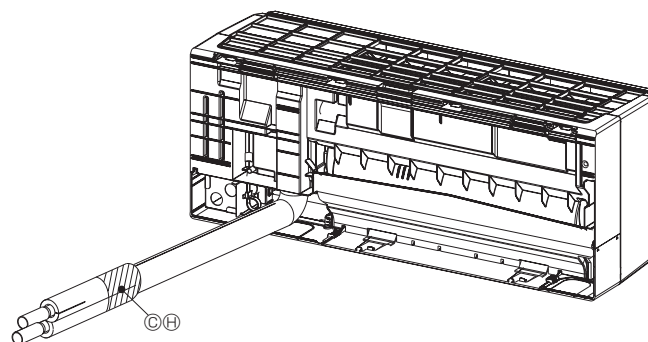

Fig. 3-12
- (4) Attach insulation materials (H) to the cut parts (C) of the pipe covers to insulate them. (Fig. 3-12, 3-13)